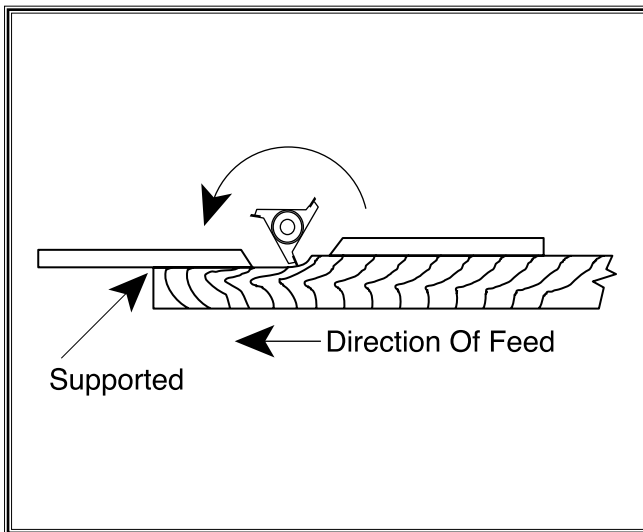

Figure 43. Fence setup for jointing-type operations (Guard Not Shown For Clarity).
7. Once the cutter has come to a complete stop, adjust the outfeed fence so that it just touches the newly cut edge as shown in Figure 43.